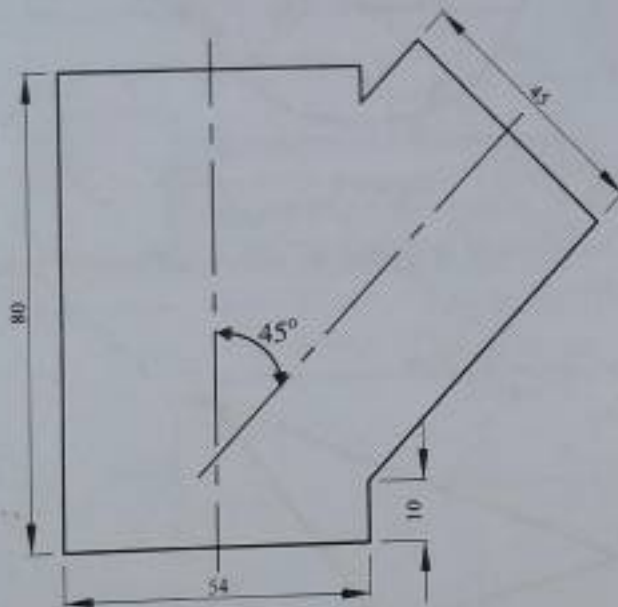

Figure 5
5. Figure 5 shows an elevation of two cylinders meeting obliquely. Trace the line of intersection.